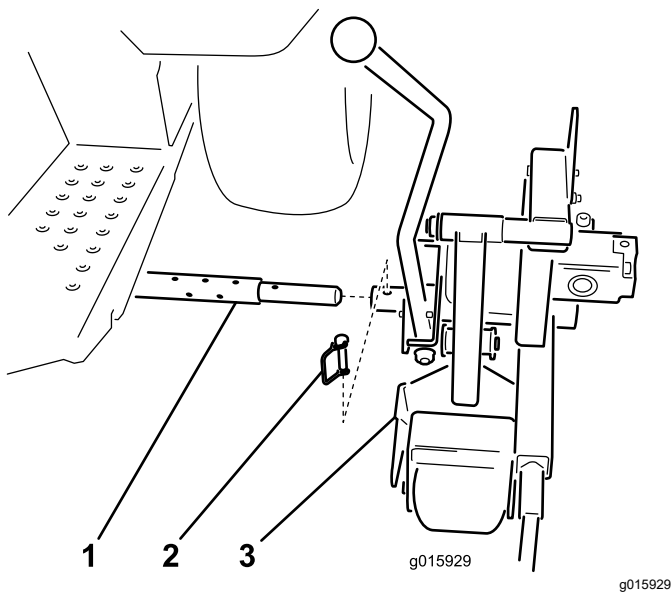

Figure 5
1. Slide the pivot tube of the cutter head onto the cross tube (Figure 5).
2. Secure the cutter head to the cross tube with the hitch pin (Figure 5).